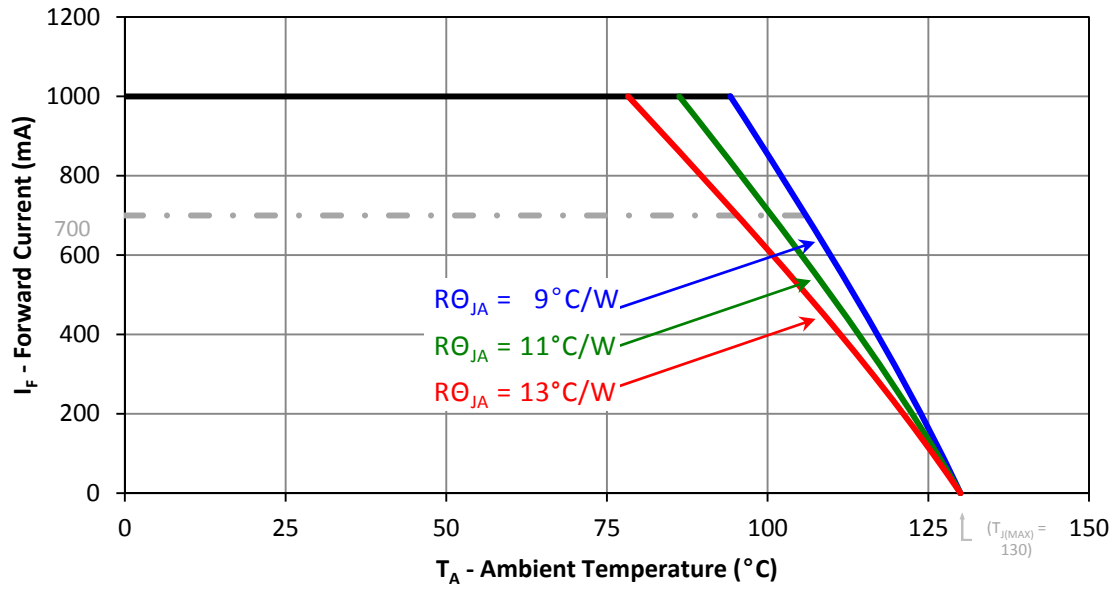

Figure 11: Maximum forward current vs. ambient temperature based on $T_{j(\text{MAX})} = 130^\circ\text{C}$.
1. Maximum DC forward current is determined by the overall thermal resistance and ambient temperature. Follow the curves in Figure 11 for current derating.
Notes for Figure 11: